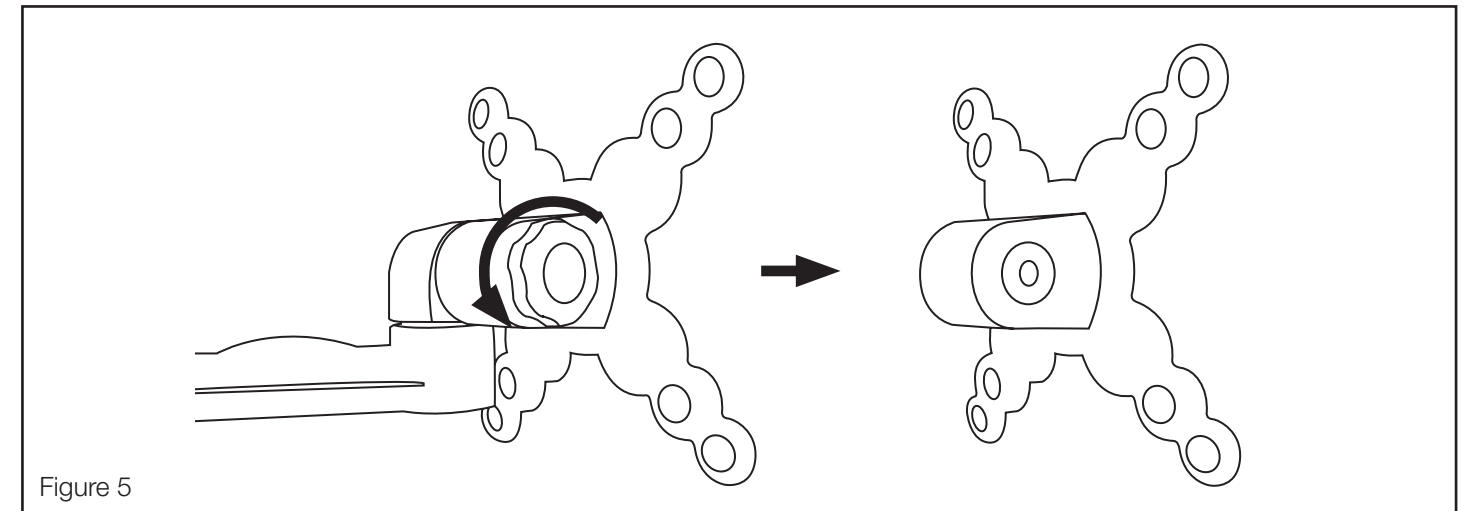

Figure 5
1. Detach the mounting arm from the TV Wall Mount by turning the adjustment knob (located at the back of the TV Wall Mount) counter-clockwise (see Figure 5).